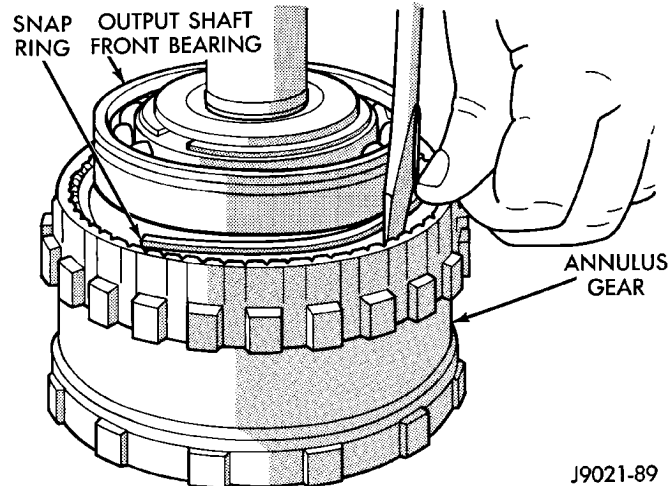

Fig. 214 Annulus Gear Installation
(3) Install annulus gear on output shaft, if removed. Then install annulus gear retaining snap ring (Fig. 214).